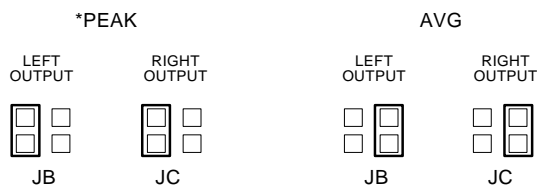

Figure 2-5: 8200ST Jumper Settings (*Factory Configuration)
- B) Refer to Figure 2-5.
The *TONE* lamp should light and the modulation meters should indicate “0.” If they do not, re-strap jumpers JB and JC to “peak.” (Refer to Figure 2-5.) The 8200ST is now producing a 400Hz sine wave at each output. The peak level of this tone corresponds to 100% modulation.